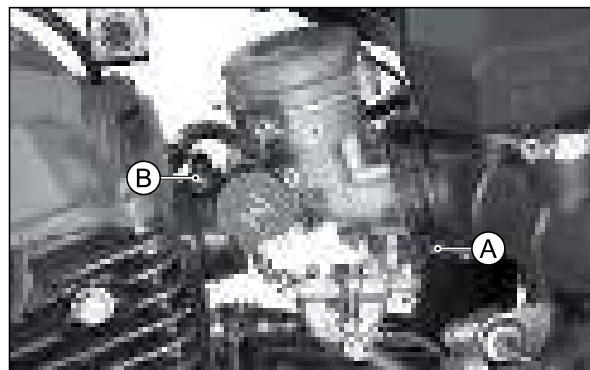

Fig. 3.25
- Loosen the hose clip (A) of tube air cleaner outlet and hose clip (B) of pipe intake complete. (Fig. 3.25)